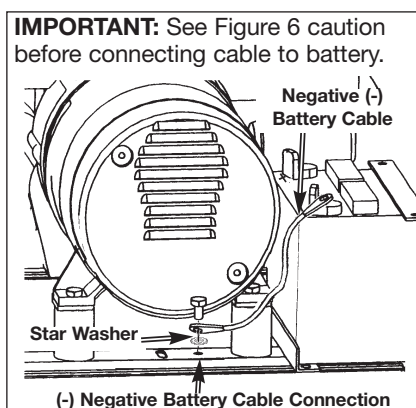

Figure 7
8. Attach the other end of the negative (black) cable to the frame as shown. Install the star washer between the cable and the frame. See Figure 7.